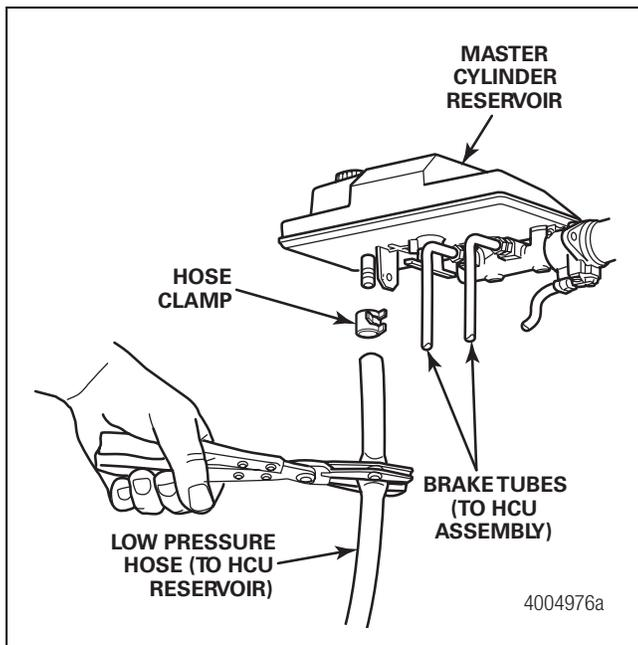

Figure 4.37
- 10. Disconnect the low pressure hose from the master cylinder reservoir. All of the fluid coming out of the master cylinder reservoir, approximately one gallon (3.4 liters), should drain into the container. Remove the cap from the master cylinder reservoir to improve the draining process. Plug the low pressure hose to prevent system contamination. Figure 4.37.